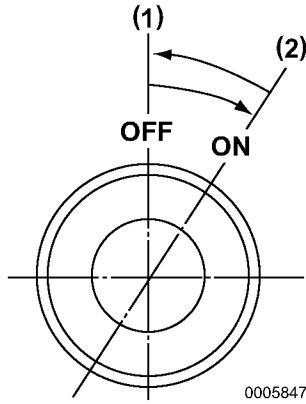

Figure 7
When the key is in the OFF position (**Figure 7, (1)**) the electric current is off. The key can be inserted or removed in this position.
The ON position (**Figure 7, (2)**) allows electrical current to the controls and equipment and allows the engine to keep running. To stop the engine, keep the key switch in the ON position and pull the engine stop knob. After stopping the engine, turn the key to the OFF position.